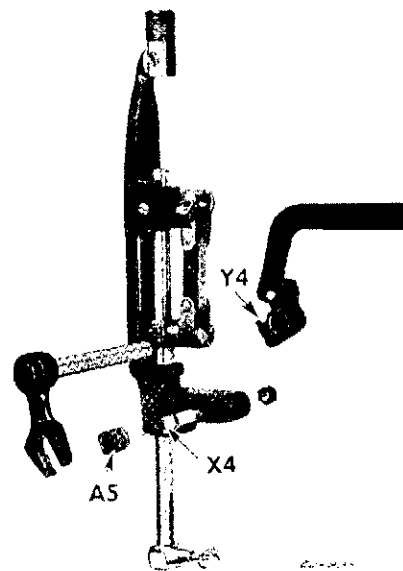

Fig. 68. Exploded View of
3. Loosen clamp screw **Y4** and withdraw needle vibrator lever fork completely from slide bushing shown in exploded view in **Fig. 68**.
5. Press holder toward hand wheel and insert eccentric stud **X4**, **Fig. 68** into needle bar holder. Then place slide bushing on eccentric stud, setting shoulder of flat sides toward needle bar holder.
6. Simultaneously place fork over the two flat sides of bushing **A5**, **Fig. 68** and insert lever end of fork into clamp at **Y4**, **Fig. 68**. Add shim of .003" between pitman crank and fork bushing. Then tighten screw **Y4** and remove shim.